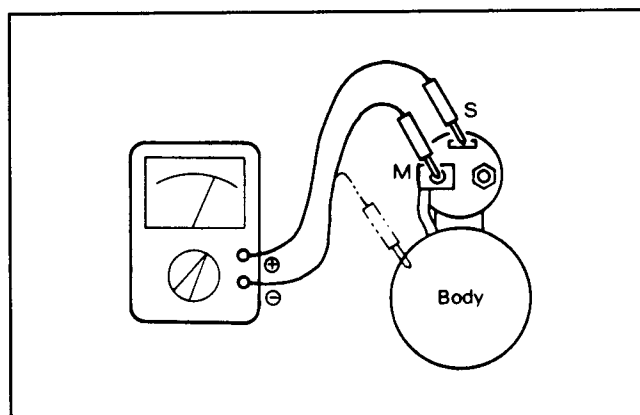

Figure 30
10. Check the magnetic switch for continuity between terminals "S" and "M" and between terminals "S" and body (Fig. 30). If there is continuity (or zero ohm is indicated), replace the magnetic switch.